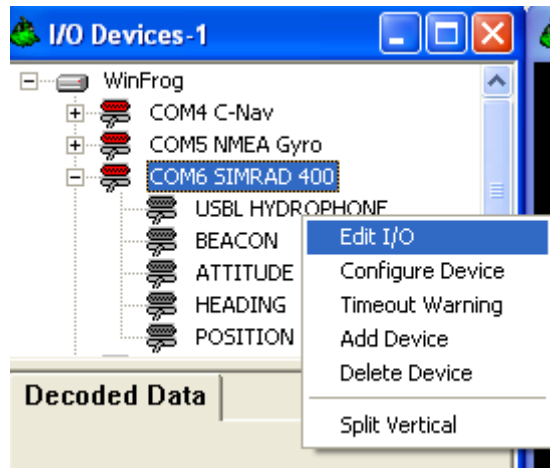

Figure 13
4.8 For the **“SIMRAD 400”** verify the following settings under **“Edit I/O”**. See Figures 13 & 14.